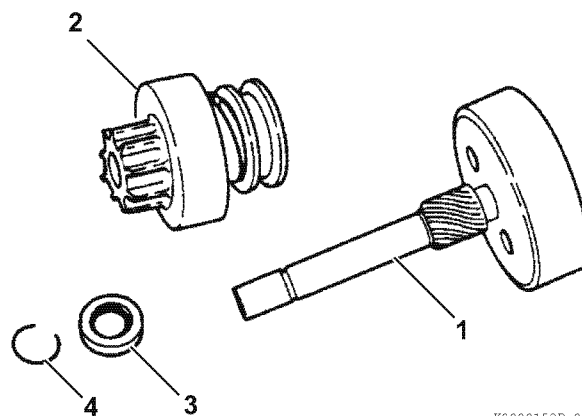

Figure 10-10
13. Remove the pinion stop (Figure 10-10, (3)), return spring (if equipped) and pinion clutch assembly (Figure 10-10, (2)) from the pinion shaft (Figure 10-10, (1)).